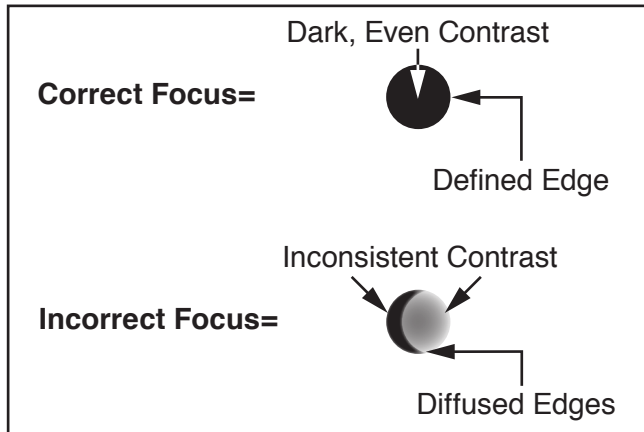

Figure 130. Focal point alignment examples.
- 21.** Close top loading door and verify secondary Mirror #3 and focal point alignment by pressing Pulse button on control panel. Compare results with **Figure 130**.
5. With help from an additional person, rotate thumbscrews behind reference laser until laser beam focal point matches "Correct Focus" example in **Figure 130** on **Page 79**.